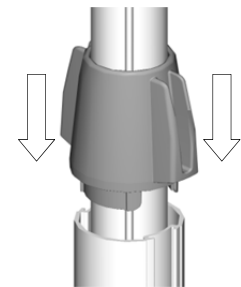

Figure 27
13. Remove the level from the post by sliding it up off the bottom portion of the post. Slide the blue locking device down to fit into the bottom part of the post to lock the post in place (see Figure 27).